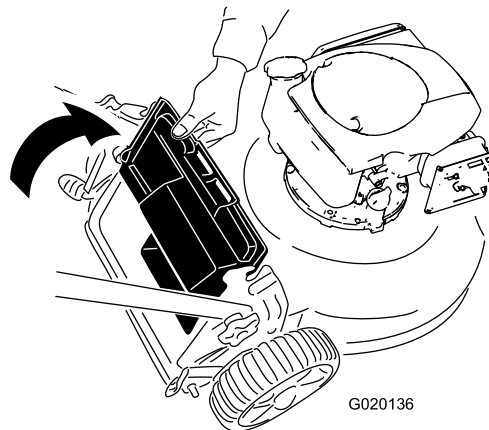

Figure 16
2. Lift up the rear deflector and hold it (Figure 16).